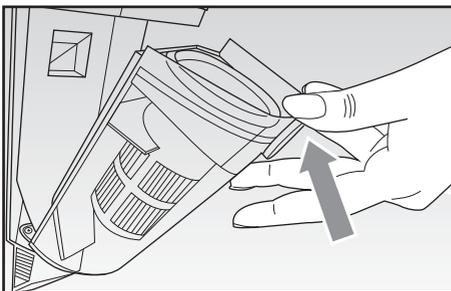

Fig. 12
- Press the unlocking buttons and remove the complete container (Fig. 12).